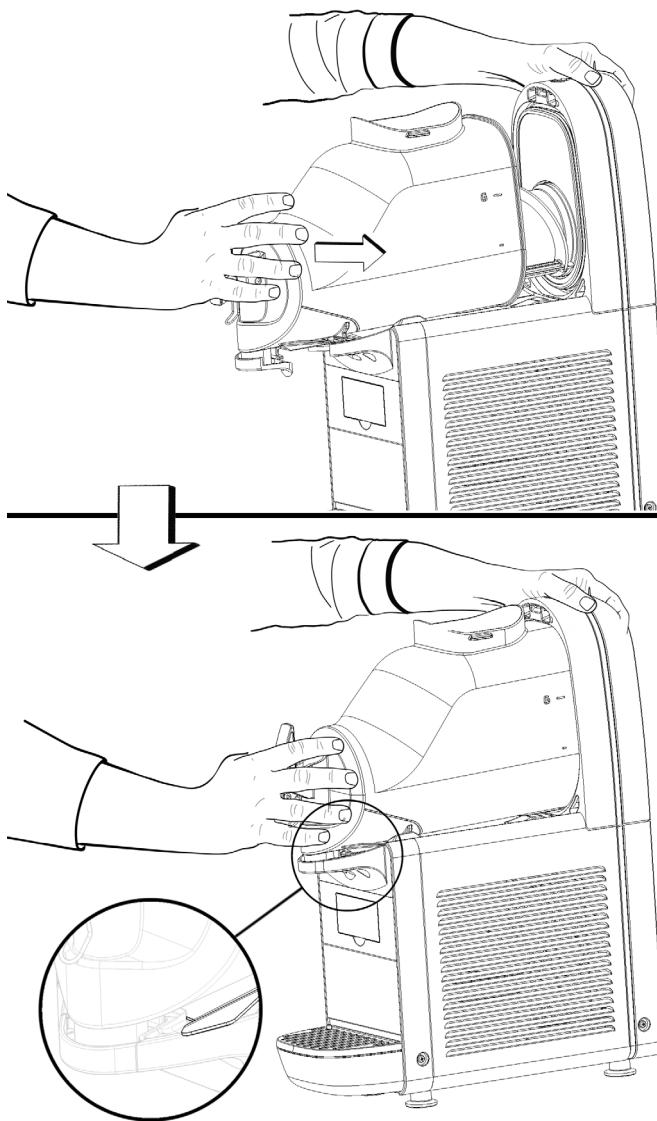

figure 23
- 6** Replace the container by pushing it towards the back wall, making sure it fits properly onto the gasket. The locking lever will be lowered until it rests on the drip tray surface (see figure 23).